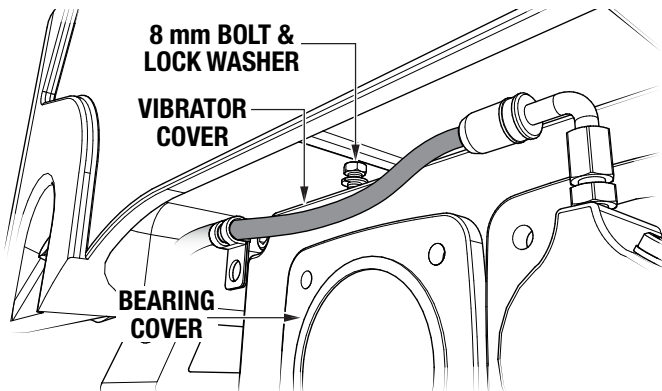

Figure 7. Bolt Removal (Vibrator Cover)
- Using a 13 mm offset wrench, remove one 8 mm bolt and lock washer securing the vibrator cover to the vibrator (Figure 7). The bolt and washer are located just above the bearing cover to the left. Retain the bolt and lock washer for later.